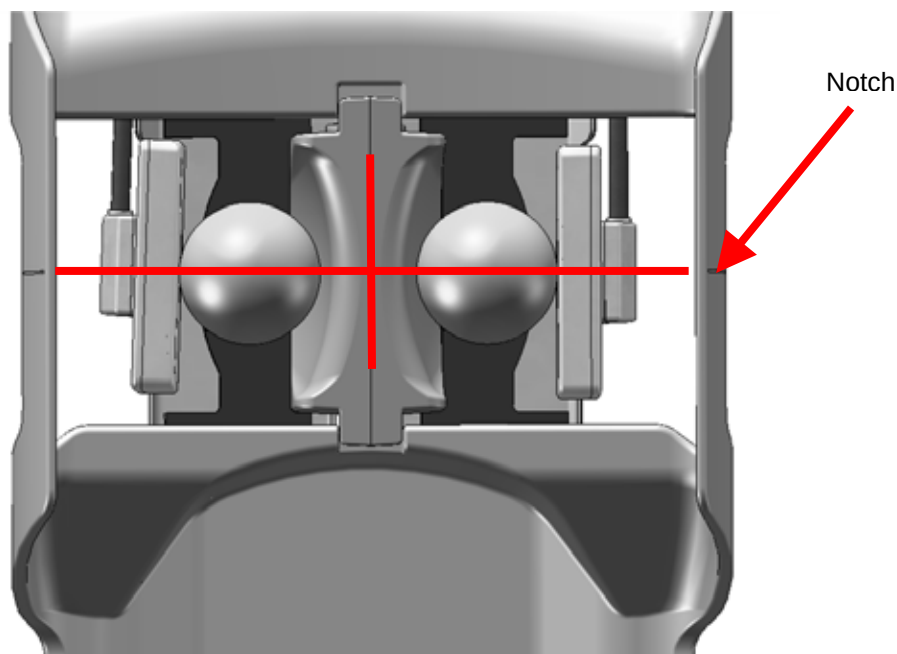

Figure 61: 8 Channel - Landmark Phantoms
5. Landmark using the notch on the edge of the patient support as shown in Figure 61.